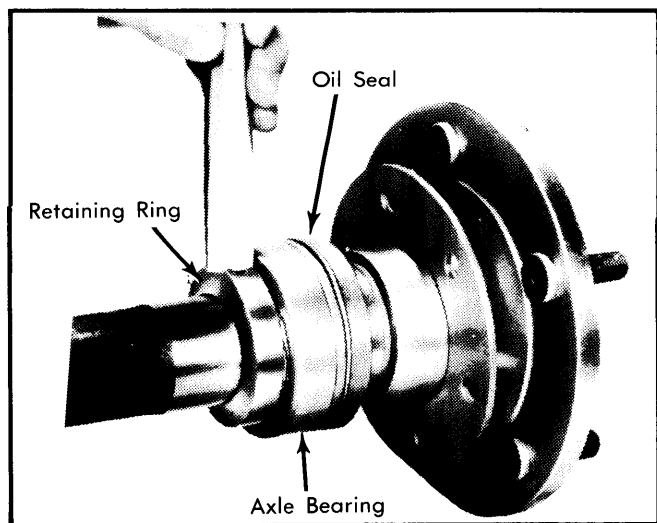

Fig. 2 Removing Bearing Retaining Ring (Cherokee, J-10 & Wagoneer)
3) Mount axle shaft in vise. Drill a 1/4" hole in retaining ring approximately 3/4 way through ring thickness, making sure not to let drill contact axle shaft. See Fig. 2.